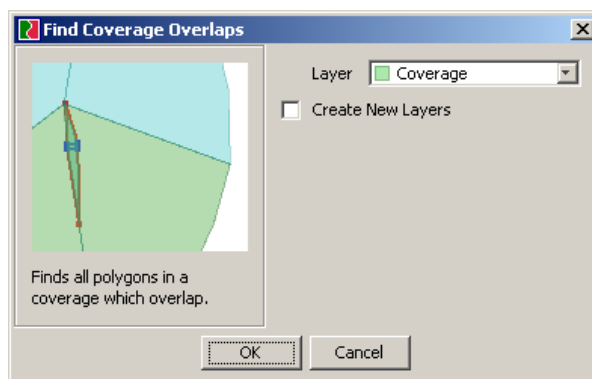

Figure 12 - Find Coverage Overlaps dialog
- Invoke the Overlap Detection function by choosing **QA / Find Coverage Overlaps...** (see Figure 12 below).